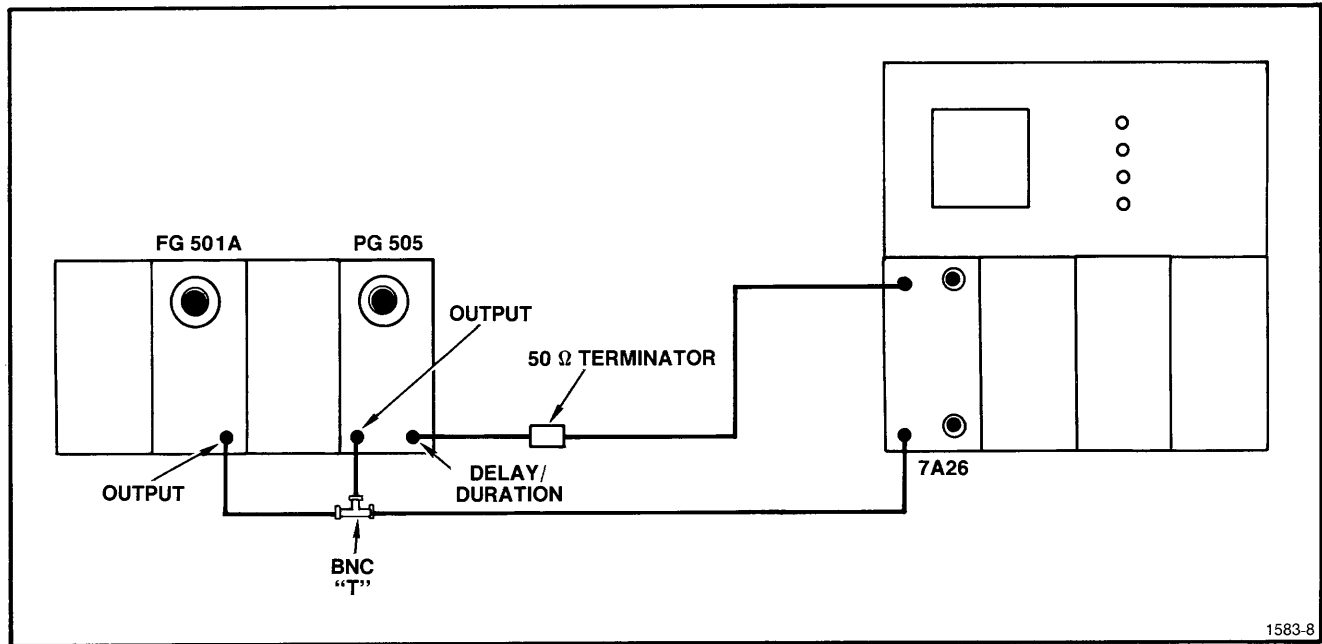

Fig. 4-3. Output Delay Range Check.
- b. Connect the equipment as shown in Fig. 4-3.
b. Connect the equipment as shown in Fig. 4-3.